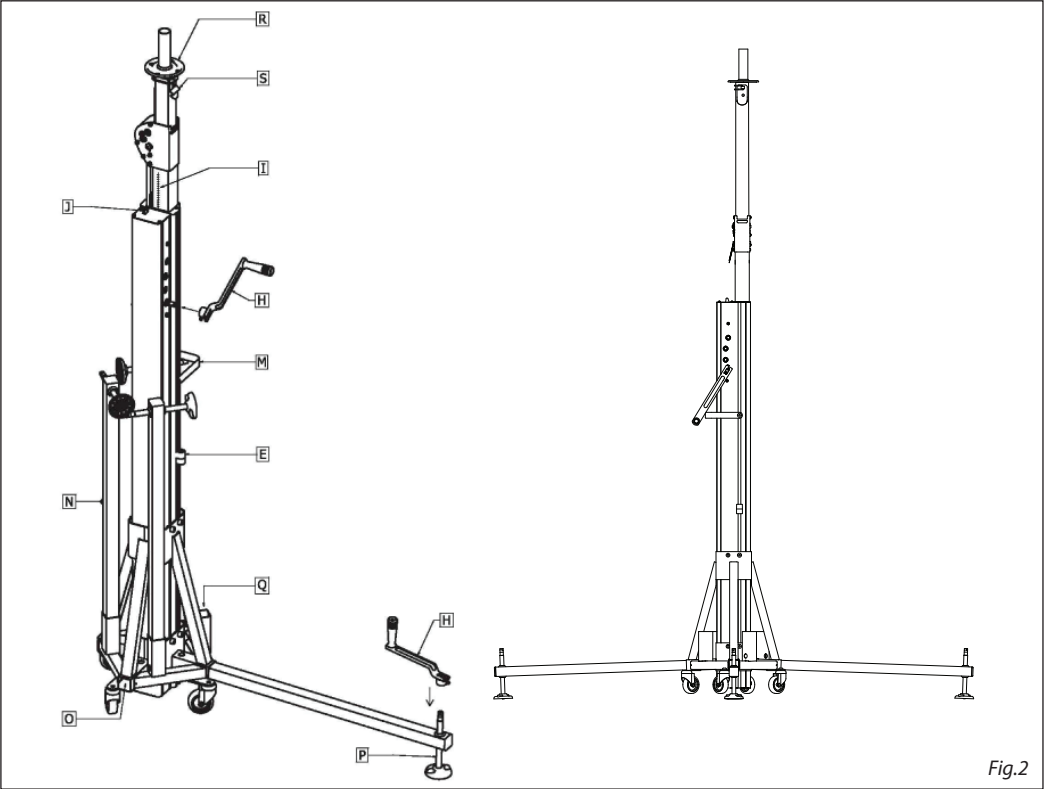

Fig.2
- Unlock each leg (N), position it in the corresponding locating hole (O) until it is safely locked (see figure 2).
- Check the lifter stability with bubble marker (E).
- Adjust if required the leg position (P) thanks to the handle (H) to correct a possible irregular floor.
- Check again the lifter stability with the bubble marker (E).
- Position the load fixing device (R) et secure it with screw.
- Push the locker forward (J).
- Position the handle on axle (H) and check the self locking system.
- The height of load can be checked directly (line between the first and the second section) on the scale-line (I) integrated to the 2d section. The load can be adjusted to the cm